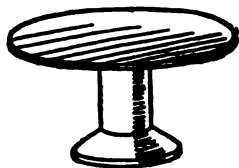

FIG. 324. — Round Center-Table.
**The Round Center-Table** (Fig. 324) is made similarly. Use the rim of a cup for marking out the circular top.